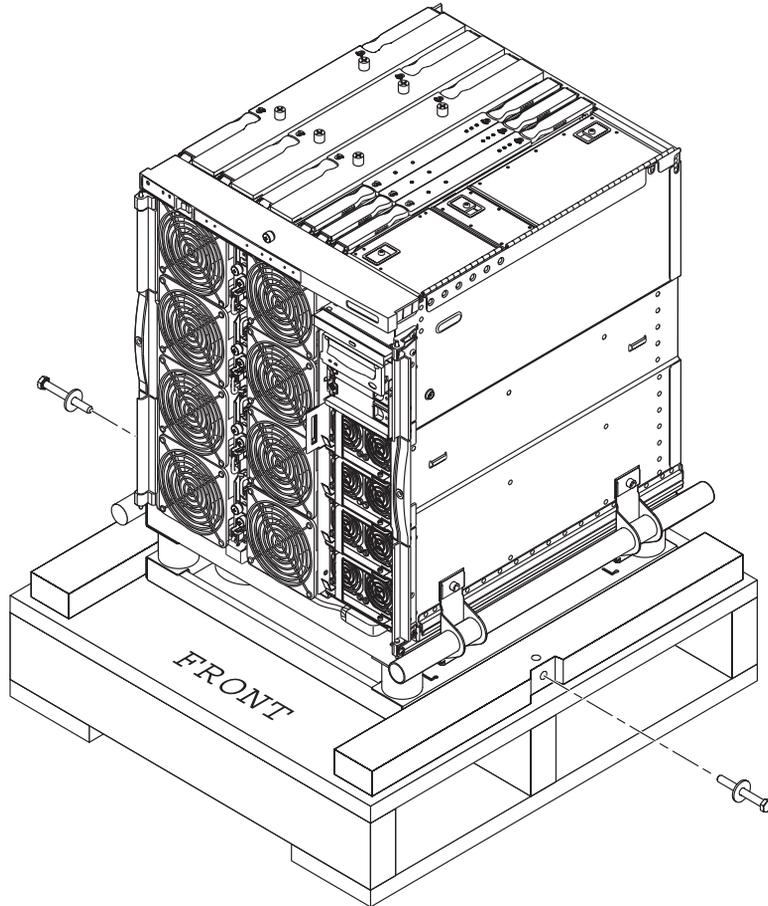

FIGURE 1-9 Removing the Shipping Cradle Bolts
2. Remove the shipping cradle bolts (FIGURE 1-9).